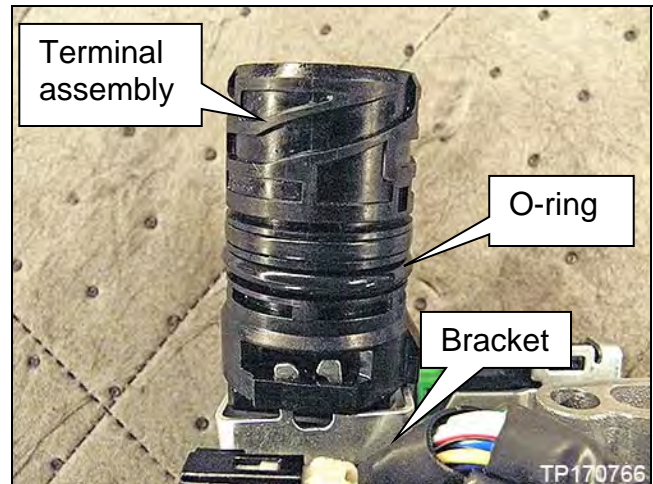

Figure 1T
2. Make sure that the terminal assembly is attached to the bracket of the new control valve (Figure 1T).